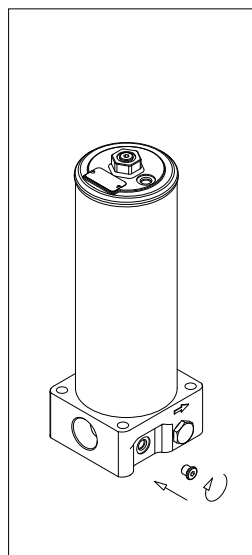

fig. 16
- (Fig. 16) Screw the drain plug in referring to the tightening torque table in paragraph 3